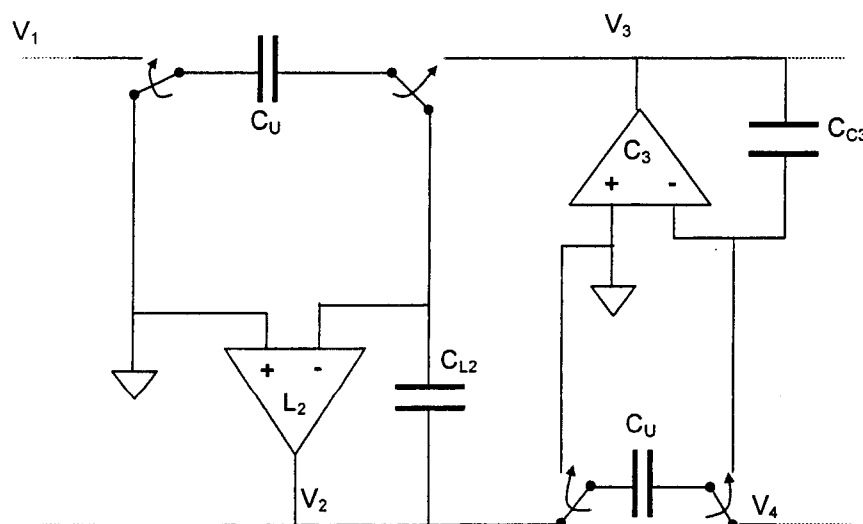

Figure 5.1
- (c) Figure 5.1 shows one section of a switched capacitor ladder filter. Based on this filter structure, design a 3rd-order Chebyshev low-pass filter with a cut-off frequency of 5 kHz and a 1.0 dB pass band ripple. Assume a clock frequency of 100 kHz. Passive component values for the LC prototype, normalised to 1 rad/s, are  $C_1 = C_3 = 2.0236$ ,  $L_2 = 0.994$ . In your analysis assume all integrators to be lossless.